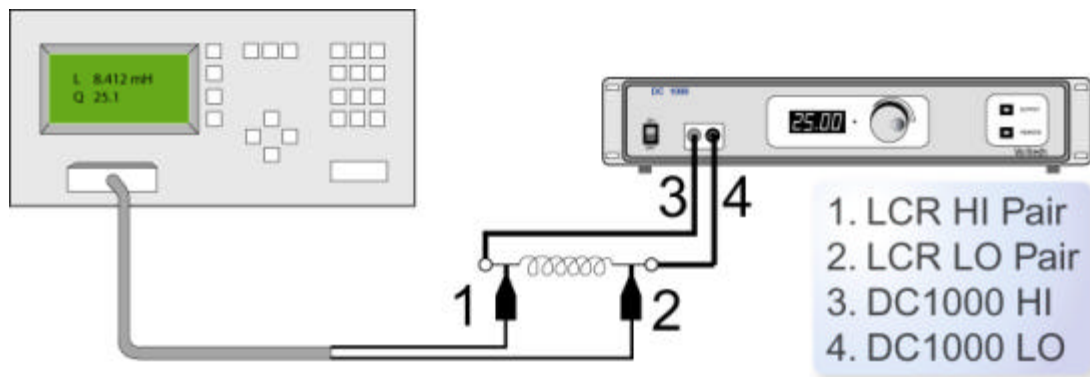

Fig. 4
- B) Make all the connections indicated in *fig. 4*.